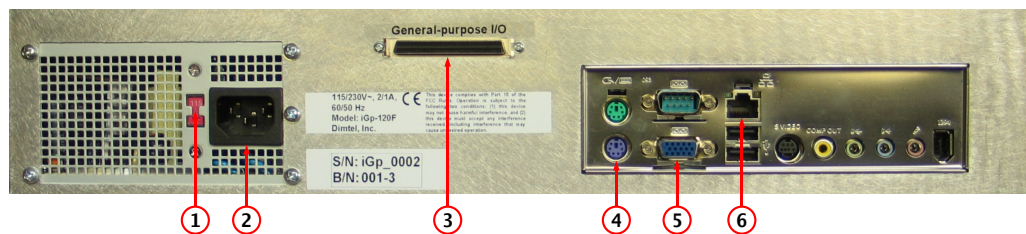

Figure 3: Rear panel features
WARNING: Before connecting power to the unit make sure the voltage selection switch (Fig. 3, item 1) is in the correct position (115 or 230 V).
1. Configure voltage selection switch (Fig. 3, item 1). Mains supply requirements for the iGp-5120F are listed in Table 8;
7. Connect a PS/2 keyboard (Fig. 3, item 4);
8. Connect a video monitor (Fig. 3, item 5);
Setup program is included in the **IOC** for configuring the important features of the iGp-5120F. The program can be executed locally or remotely. For local execution one must first connect a keyboard (Fig. 3, item 4) and a video monitor (Fig. 3, item 5) to the system. For remote setup, use **ssh** after system bootup to establish connection. In both setup methods the user must login as **root** (initial password is supplied with the system). If the newly received iGp-5120F must be configured remotely (when, for example, a keyboard or a monitor is not available), such configuration can be performed using a dedicated network. Set up a network consisting of the iGp-5120F, a network hub or a switch, and a remote computer. The iGp-5120F is delivered with the following network configuration:
- Make sure no cable is connected to the general-purpose digital **I/O** port (Fig. 3, item 3);